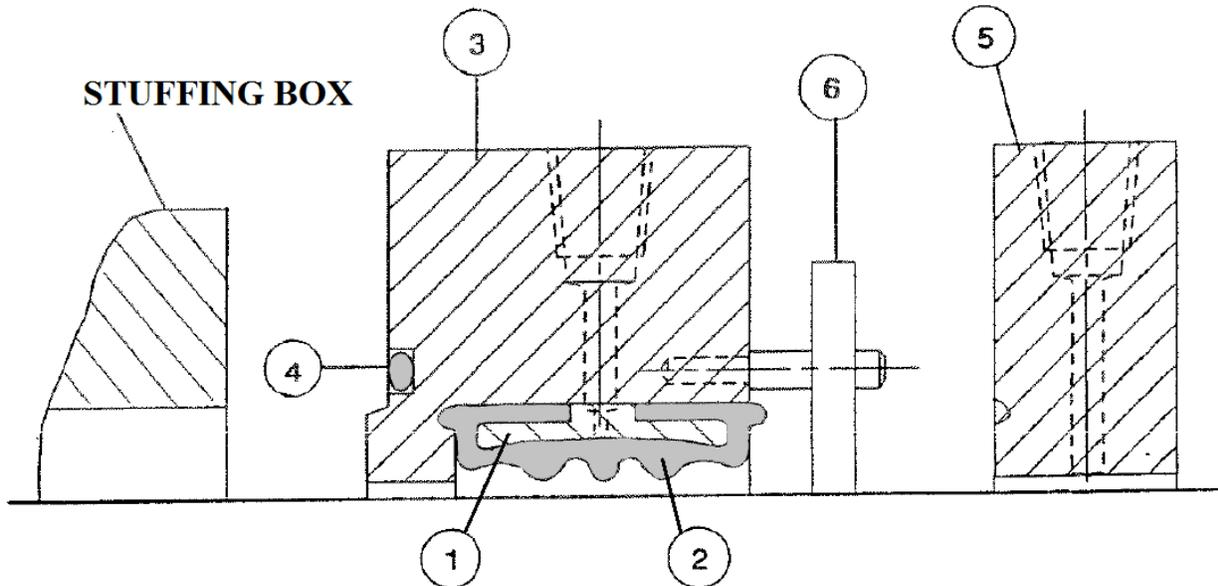

Figure 2
- Slide inflatable seal components and any non-split mechanical seal components around shaft in the order and direction shown in diagram below (Figure 2).
8. Insert "O" ring/gasket (Item #4, figure 2 & 6) in groove on back of housing (Item #3). Spread a thin film of RTV sealant on the stuffing box face where it will come in contact with "O" ring/gasket. If the surface where "O" ring/gasket contacts the stuffing box is unknown, apply RTV sealant to the "O" ring/gasket.
9. Slide the housing, containing the support ring-inflatable boot assembly over mounting studs until it is flush against stuffing box face. Use centering gauges (Item #6, Figure 2) to adjust concentricity (Figure 5). Tighten housing to stuffing box and remove centering gauges.